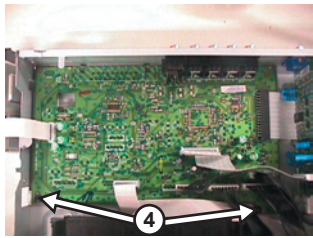
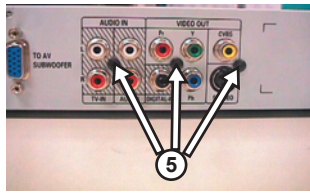

Figure 4-6
Figure 4-7
- 2) Loosen 2 screws (See Figure 4-6 & Figure 4-7) to remove the AV Board.